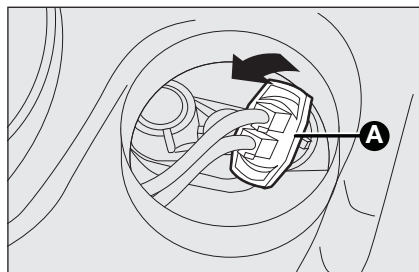

fig. 18
- ☐ turn the bulb holder clockwise **A-fig. 18** and withdraw it;